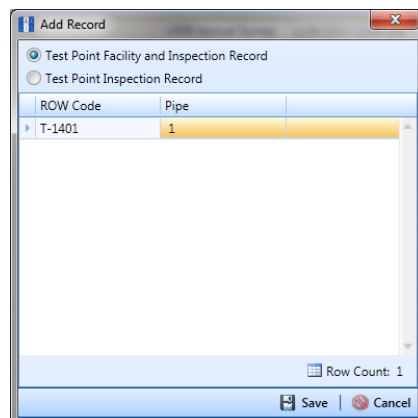

Figure 6-11. Add Record
- b Select the pipeline that you want to add a new facility and inspection record. For example, pipeline *T-1401* is selected in the following example (Figure 6-11, page 175).